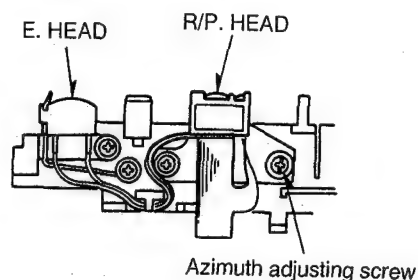

Fig. 2
2. Playback the azimuth adjustment portion (8kHz, -20dB) of the test tape (QZZCFM). Vary the azimuth adjusting screw until the output of the Rch are maximized. (Refer to Fig. 2)